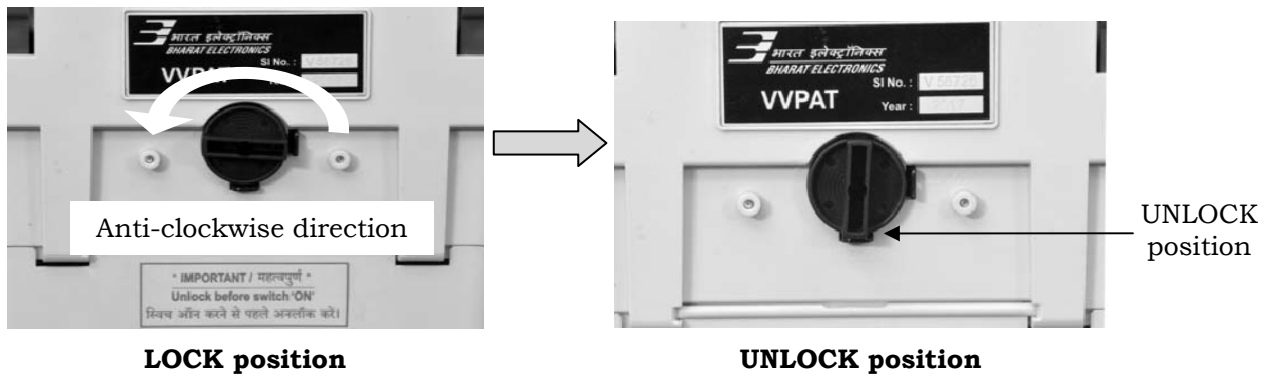

Figure 2.14 - Paper Roll Knob from Lock to Unlock position
2.1.13 VVPAT - M3 Carrying Case : The carrying case (20 in Figure 2.14) is made of plastic and is used to carry VVPAT - M3 unit with connecting cable. It has a handle (21) to hold and carry and provides for four latches (22) to lock the door and seal it.